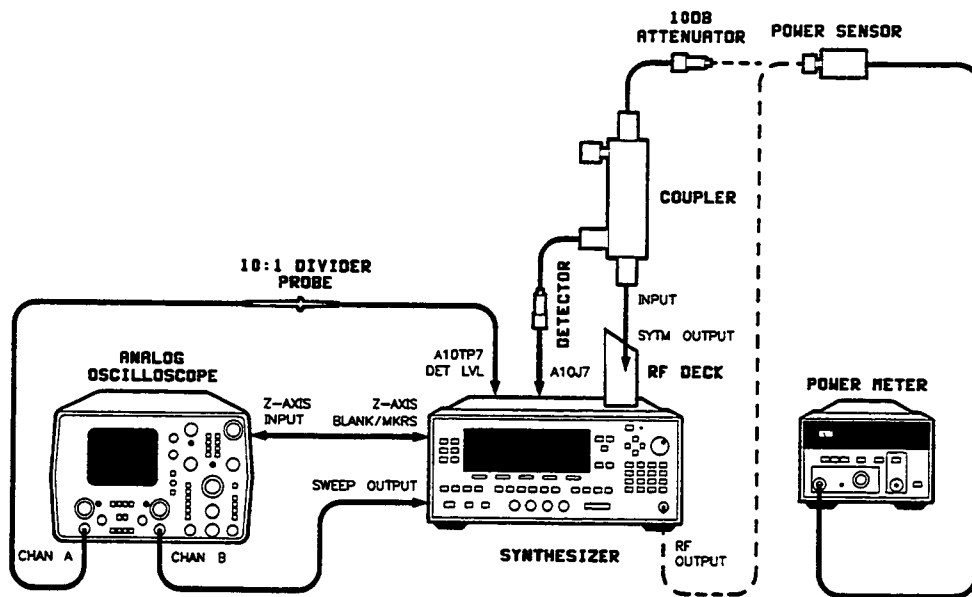

Figure 3-18. SYTM Adjustments Setup
1. Connect the equipment as shown in figure 3-18 with the RF deck installed on an extender board. Use the extender board and extender cable provided in the service kit and see "DISASSEMBLY AND REPLACEMENT PROCEDURES" in the *Assembly-Level Repair* manual for instructions. Disconnect the semi-rigid cable W56 between the A28 SYTM and the A36 pulse modulator (you will need to loosen A36 in order to remove W56). Do not connect the power meter yet. Power on all the instruments and let them warm up for at least one hour.